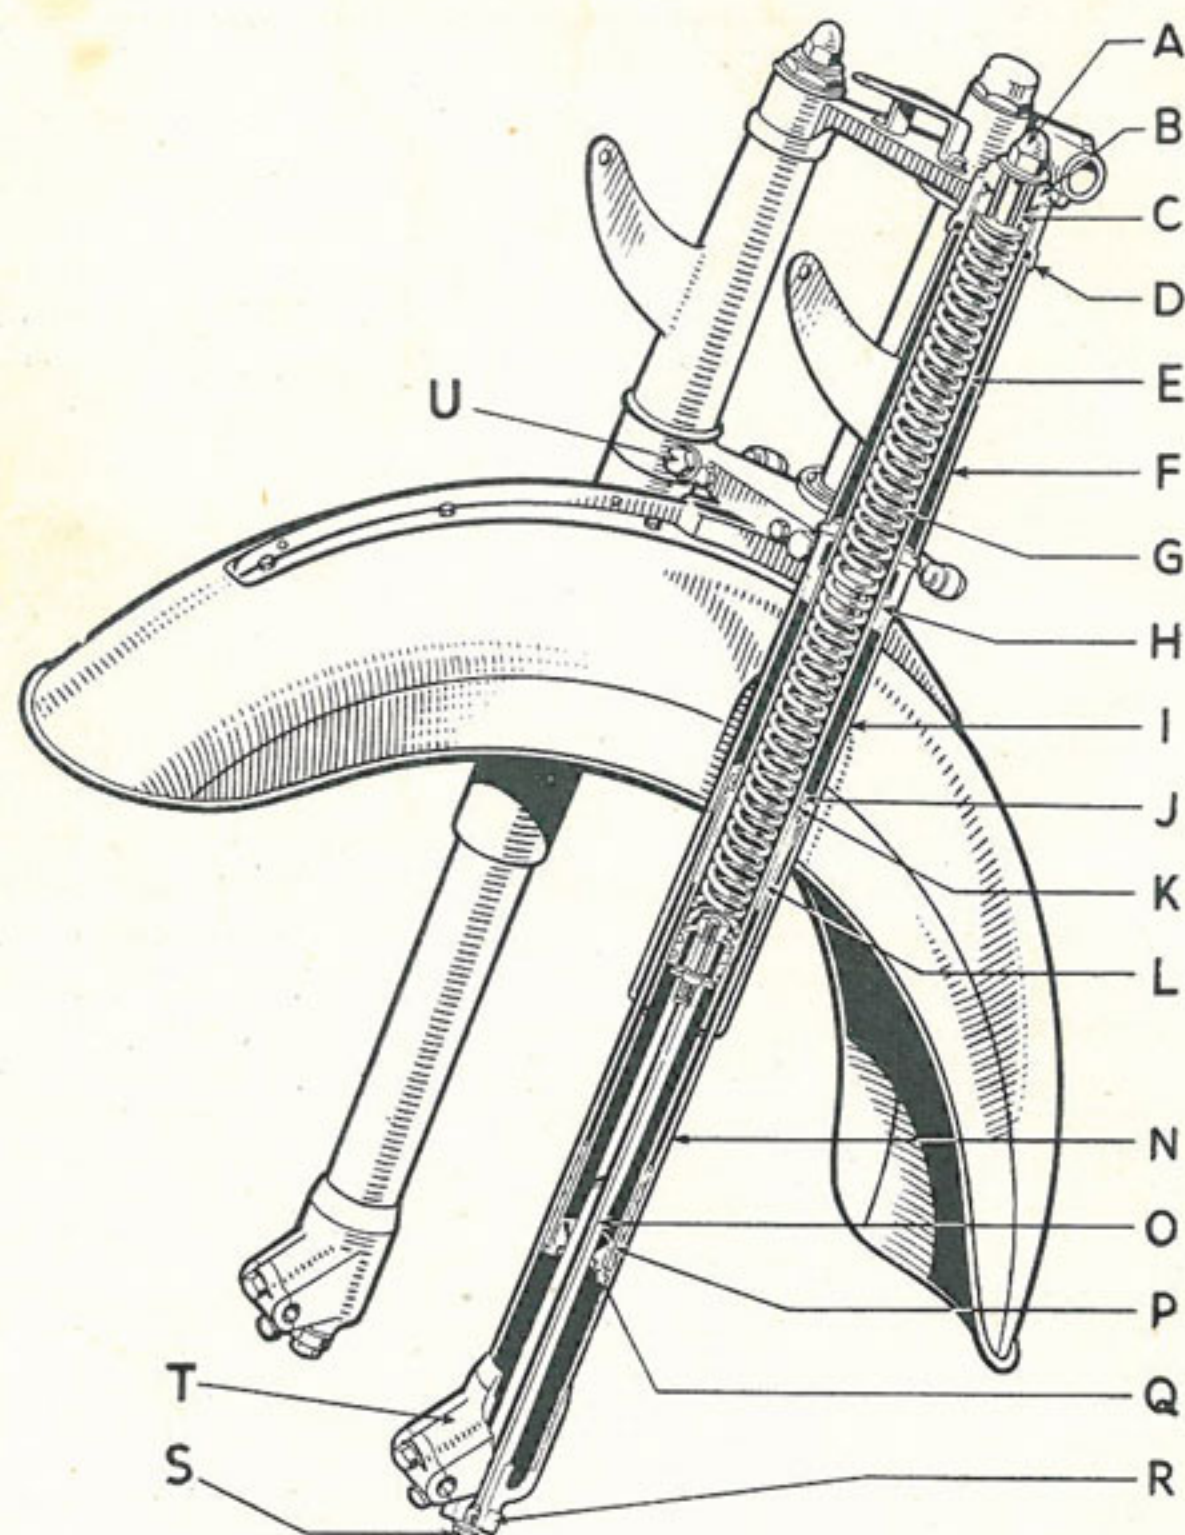

Fig. 13.
- 42 **Construction.** The front fork is of the telescopic type with hydraulic damping and employs particularly long and flexible springs. The hydraulic damping is effected by passing oil through the valve port Q (see Fig. 13), which is restricted by the bottom spring stud O. This has a taper which is so designed that it has little effect at the normal laden position, but becomes increasingly effective at the end of the travel. The fork thus provides an unusually comfortable ride on all types of road without any risk of bottoming even on the largest bumps.
- 43 **Dismantling.** If it should be required to dismantle the fork to replace the springs, oil seals or bearing bushes, proceed as follows (see Fig. 13):—
To remove the front wheel, place the machine on the stand, raise the front wheel by placing a suitable box, or a large stone, beneath the engine, disconnect the front brake, remove the nuts securing the cap to the fork ends T (Fig. 13) and the wheel will drop out.